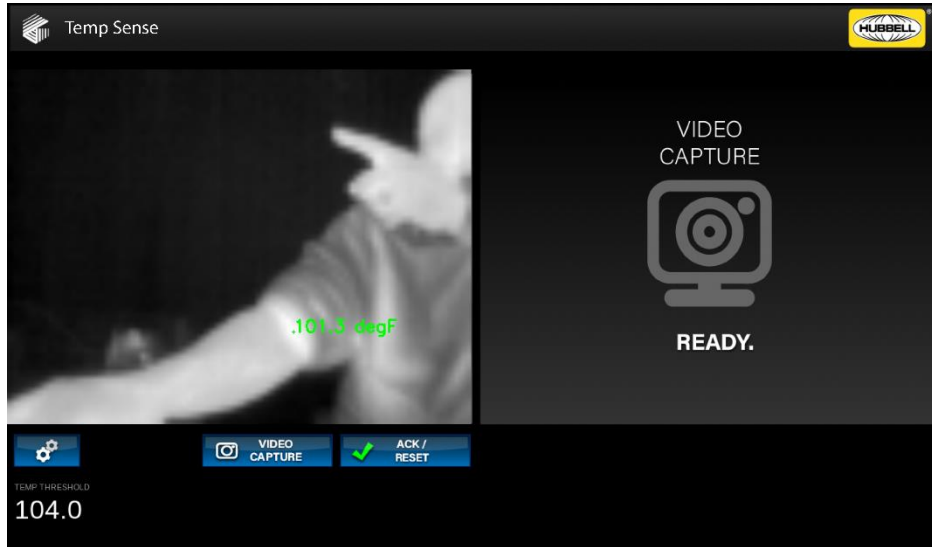

Figure 11. Temperature Superposition and Calibration
3. While watching the temperature of the object in the IR video feed (left side), slide the OFFSET slider to adjust the on-screen temperature until it displays the known temperature (see Figure 11).